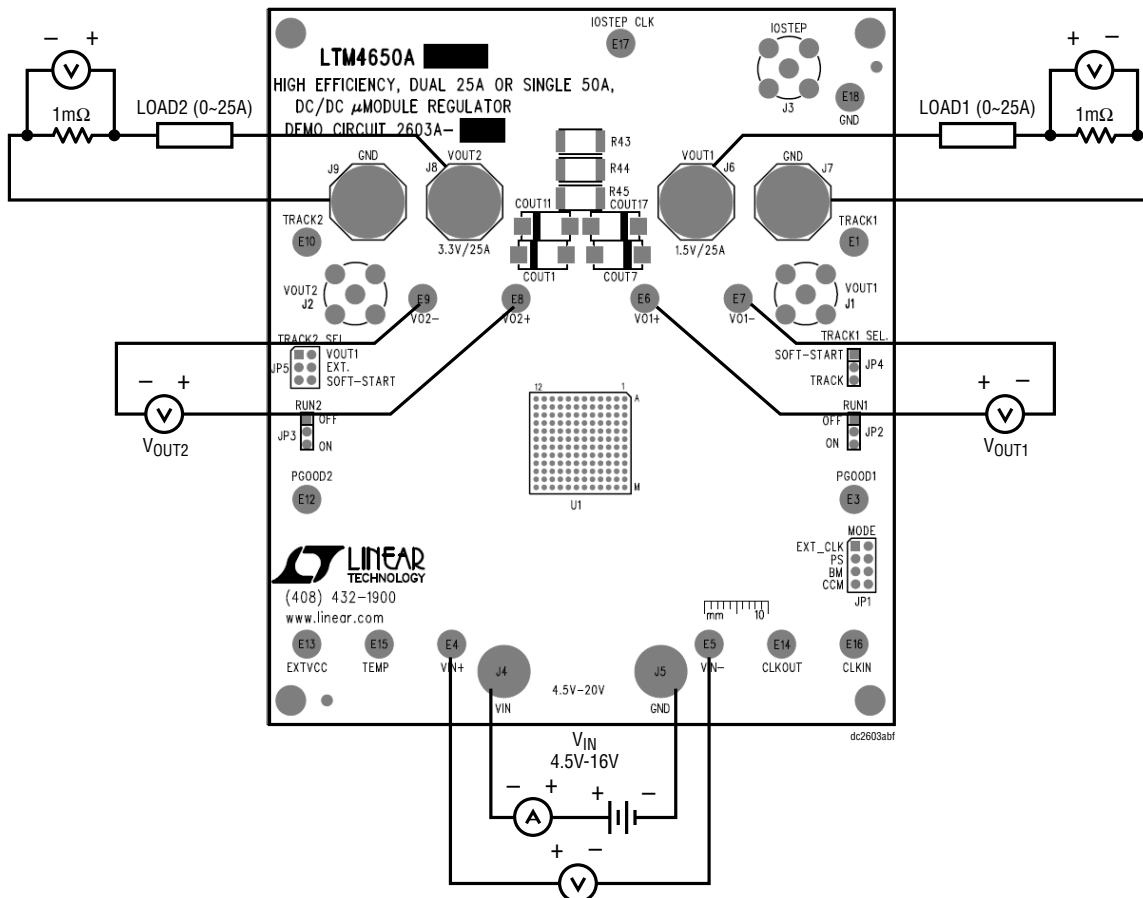

Figure 2. Test Setup of DC2603A-B
Demonstration circuit DC2603A-B is easy to set up to evaluate the performance of the LTM4650AEY-1. Please refer to Figure 2 for proper measurement setup and follow the procedure below:
- With power off, connect the input power supply, load and meters as shown in Figure 2. Preset the load to 0A and V_{IN} supply to 12V.